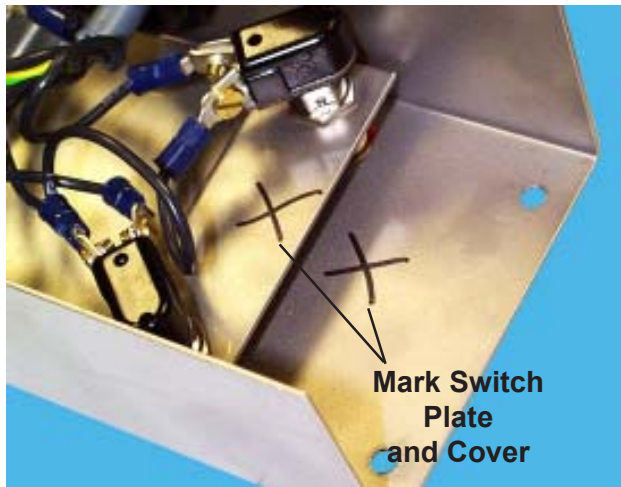

Figure 21. Marking the Switch Plate and Cover
9. With a felt tip marker or similar tool, make a mark on the switch plate and another mark on the cover (Figure 21). This will help you orient the switch plate correctly when you replace it. **Note:** The plate is symmetrical and, if not marked, would be easy to install backwards. You would end up having the table raise/lower buttons and the tilt buttons reversed.